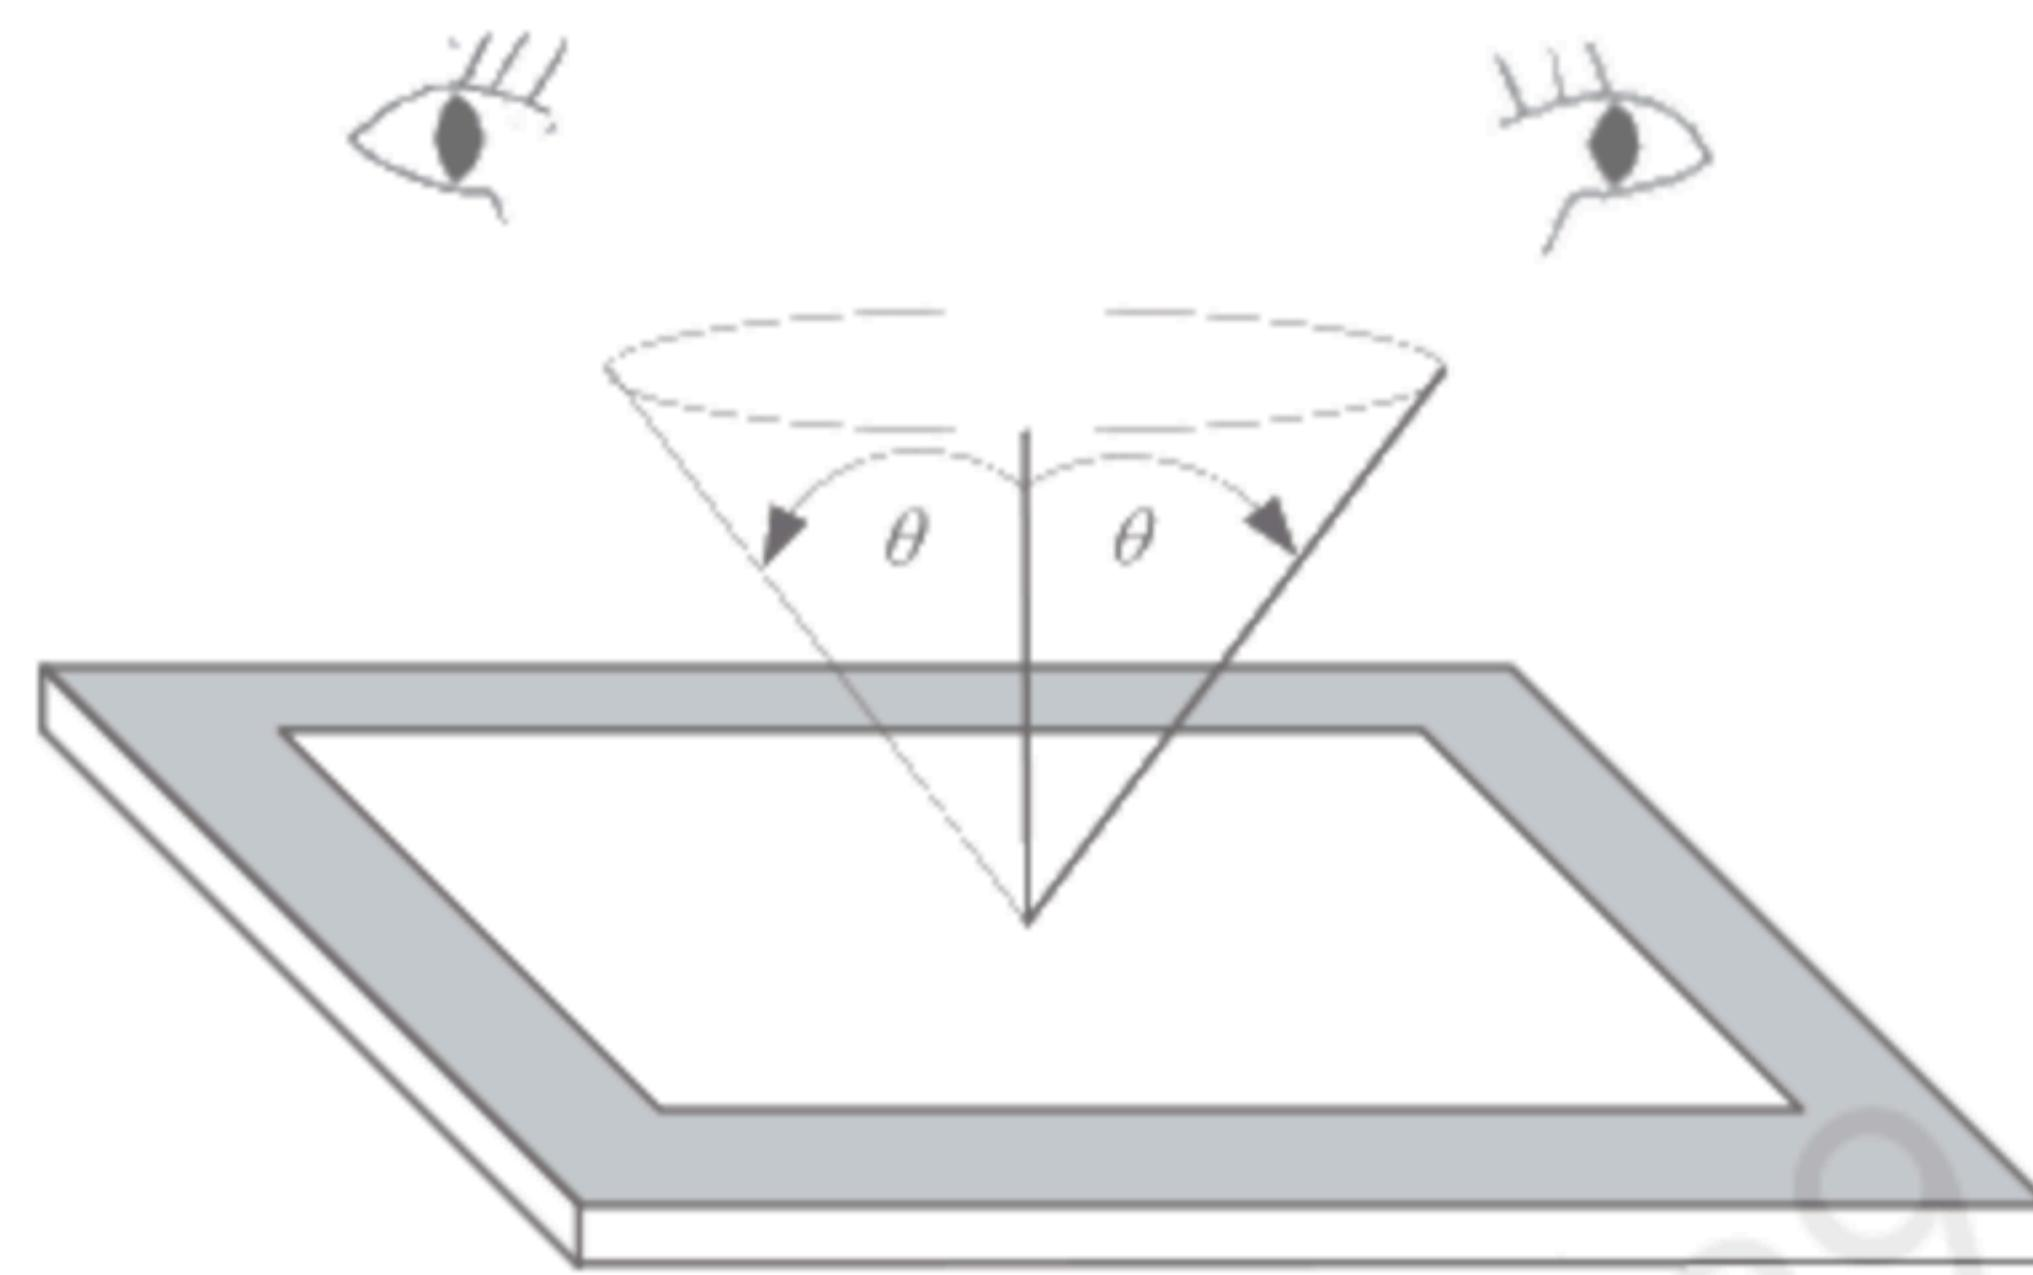

Fig. 11.1
- The viewing zone is defined with angle  $\theta$  shown in Fig. 11.1. The inspection should be performed within  $45^\circ$  when display is shut down. The inspection should be performed within  $5^\circ$  when display is power on.